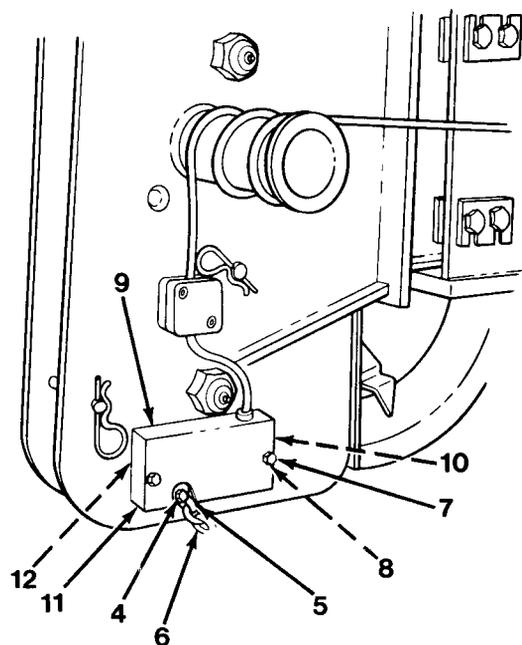
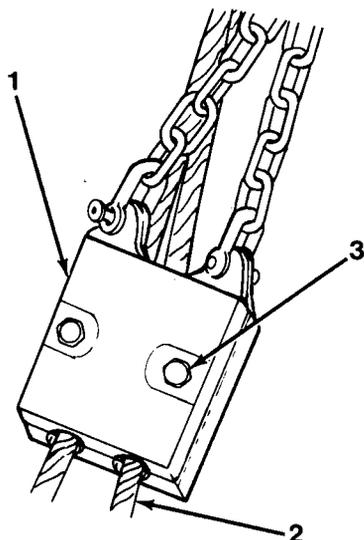

Figure 10-2
Figure 10-1
24. Install front cover (11) and rear cover (12) on anti-two block switch assembly (9) with screw (10, Figure 10-2).
25. Install anti-two block switch assembly (9), two lockwashers (8) and capscrews (7).
26. Install counterweight (1, Figure 10-1) and chain (6) by removing threaded pin (4) from clevis (5) on anti-two block switch assembly (9, Figure 10-2) and secure with threaded pin (4).
27. Place counterweight (1) around cable (2) by removing two sockethead capscrews (3) and splitting counterweight (1, Figure 10-1). Place cable (2) in counterweight (1).
28. Install two capscrews (3) back in counterweight (1).